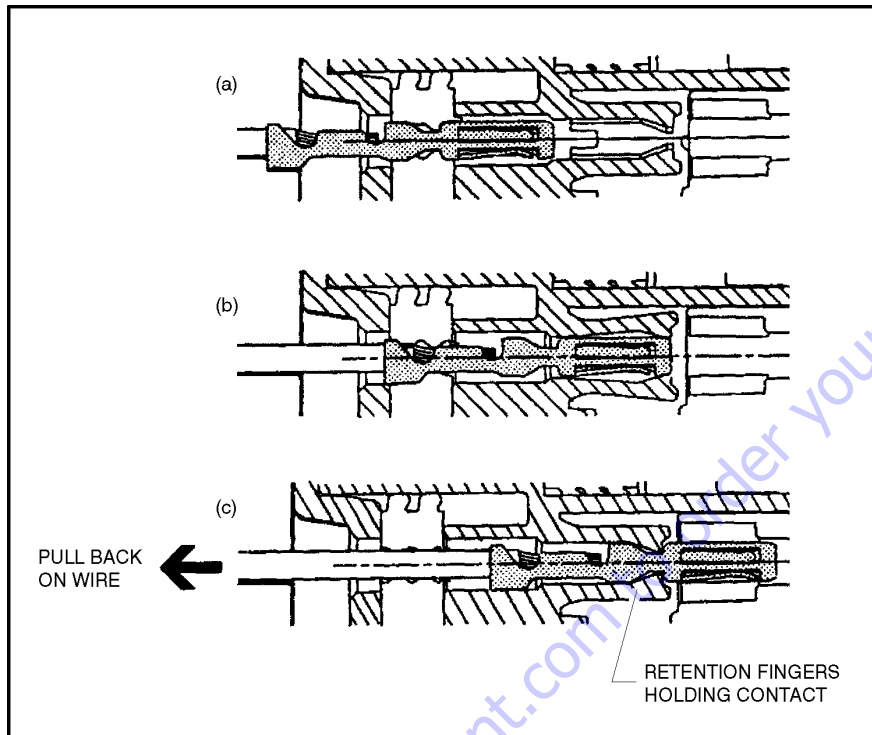

Figure 10-9. Connector Assembly Figure 2
1. To insert a contact, push it straight into the appropriate circuit cavity as far as it will go (See Figure 10-9.).
2. Pull back on the contact wire with a force of 1 or 2 lbs. to be sure the retention fingers are holding the contact (See Figure 10-9).